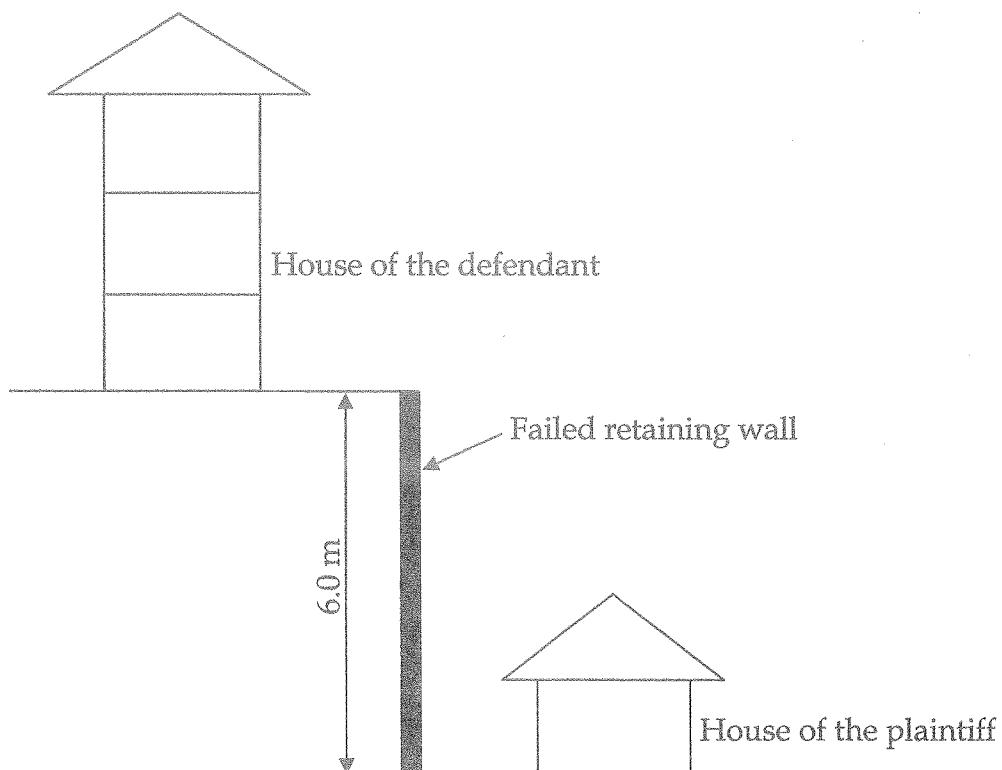

Figure Q2.1 – Cross section of the site
- Q2.** There was a collapse of retaining wall at Labuduwa, Karapitiya during December 2012, which caused heavy damage to the properties. Cross section of the site is shown in Figure Q2.1. Soon after the construction of 6.0 m high retaining wall, back filling was started with the intention of further increasing the area of back yard by the defendant (person who is on the retained side). Few hours after the backfilling, retaining wall was completely failed destroying the properties of the plaintiff (person who is in front of the retaining wall). Later, it was realized that retaining wall was constructed without consulting a qualified engineer and failure was occurred basically due to the poor design.